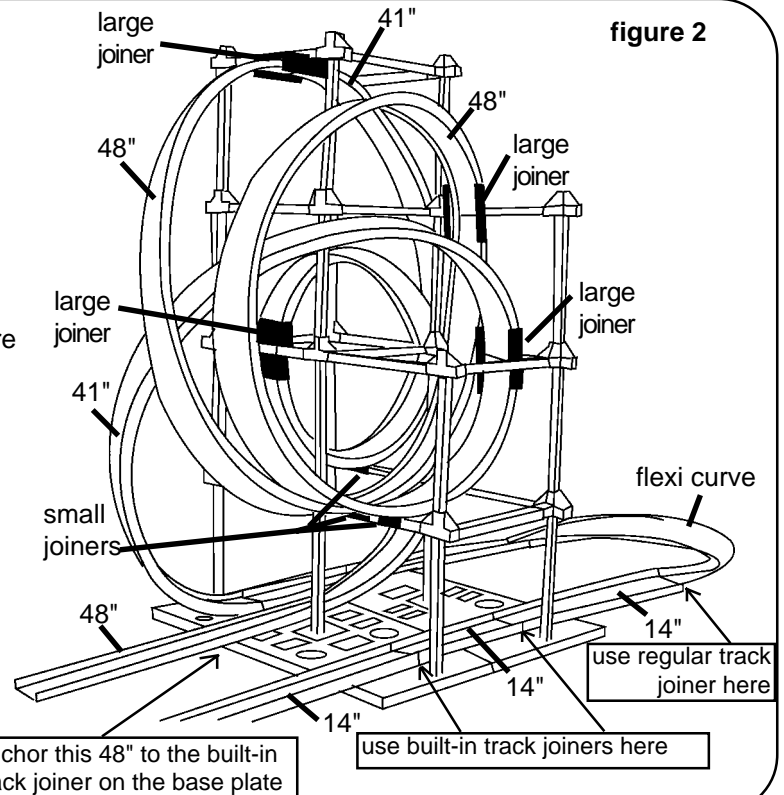

figure 2
2. Build the tower as shown in figure 2, using 44 bars and 26 couplers. Begin by pushing the bars into the built-in squares on the modular base plate, and build up from there.
- Add two **14"** straight tracks, one **7"** straight track and **flexi-curve** as shown in **figure 2**. Use the built-in track joiners on the base plate to connect straight track pieces to each other, as shown. Use regular track joiners to connect 14" to flexi curve as shown.